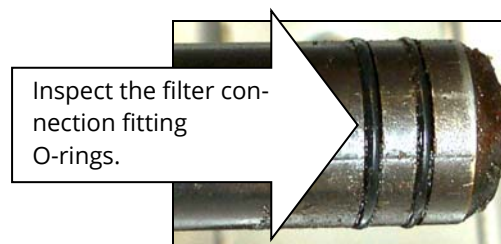

Figure 10
2. Inspect the filter pan connection fitting to ensure that both O-rings are in good condition (see Figure 10).